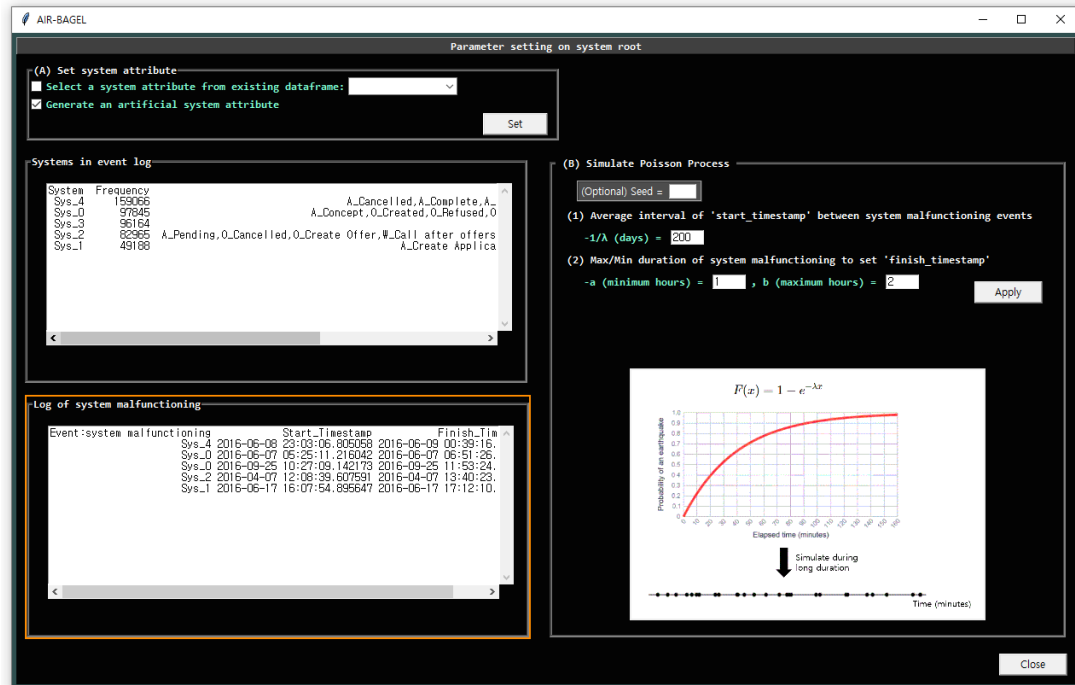
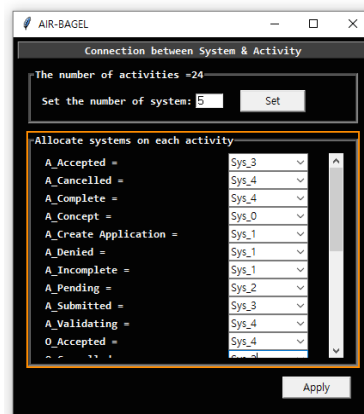

Figure 7 Generating occurrences of system malfunctioning with ‘Random’ option
Figure 8 Generating an artificial system attribute
The objective of this step is to assign one or more intervals of system malfunctioning to the systems in an event log. Depending on your selection at step 2, you will be shown a different screen to select two possible options: 'Random' and 'Self-configuration'. The 'Random' option draws the system malfunctioning intervals from a Poisson process, where the average time interval between the occurrence of system malfunctioning is controlled by a Poisson parameter ( $1/\lambda$  days), and the duration of system malfunctioning is defined by two parameters of a Uniform distribution a (minimum time) and b (maximum time) (see Fig.7). In the “self-configuration” option the user can specify one or more system malfunctioning intervals for each system (see Fig.8).
- A. If there is a system attribute in event log, select it and click **Set** (Fig.7)
- i. Check the checkbox button “Generate an artificial system attribute” and click **Set** (Fig.7)
- ii. Set the number of systems (Fig.8)
- iii. Map each activity to a system (Fig.8)
- iv. Click **Apply** (Fig.8, you can modify the created mapping manually if needed)
- A. Specify a parameter ( $1/\lambda$  days) to set the distribution of occurrence of system malfunctioning. Technically, this parameter controls the Start\_Timestamp of system malfunctioning (Fig.7)
- B. Define two parameters a (minimum time) and b (maximum time) to control the duration of a system malfunctioning, which will be drawn uniformly between a and b. In other words, these parameters set the End\_Timestamp of a system malfunctioning (Fig.7)
3. Click **Apply** (Fig.7)
4. Click **Close** (Fig.7)